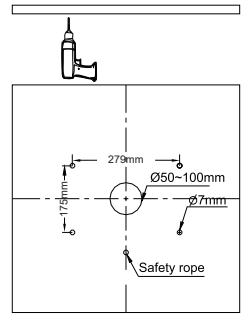

Figure 2
2. Use electric drill to set fixed holes through the ceiling (Figure 2).